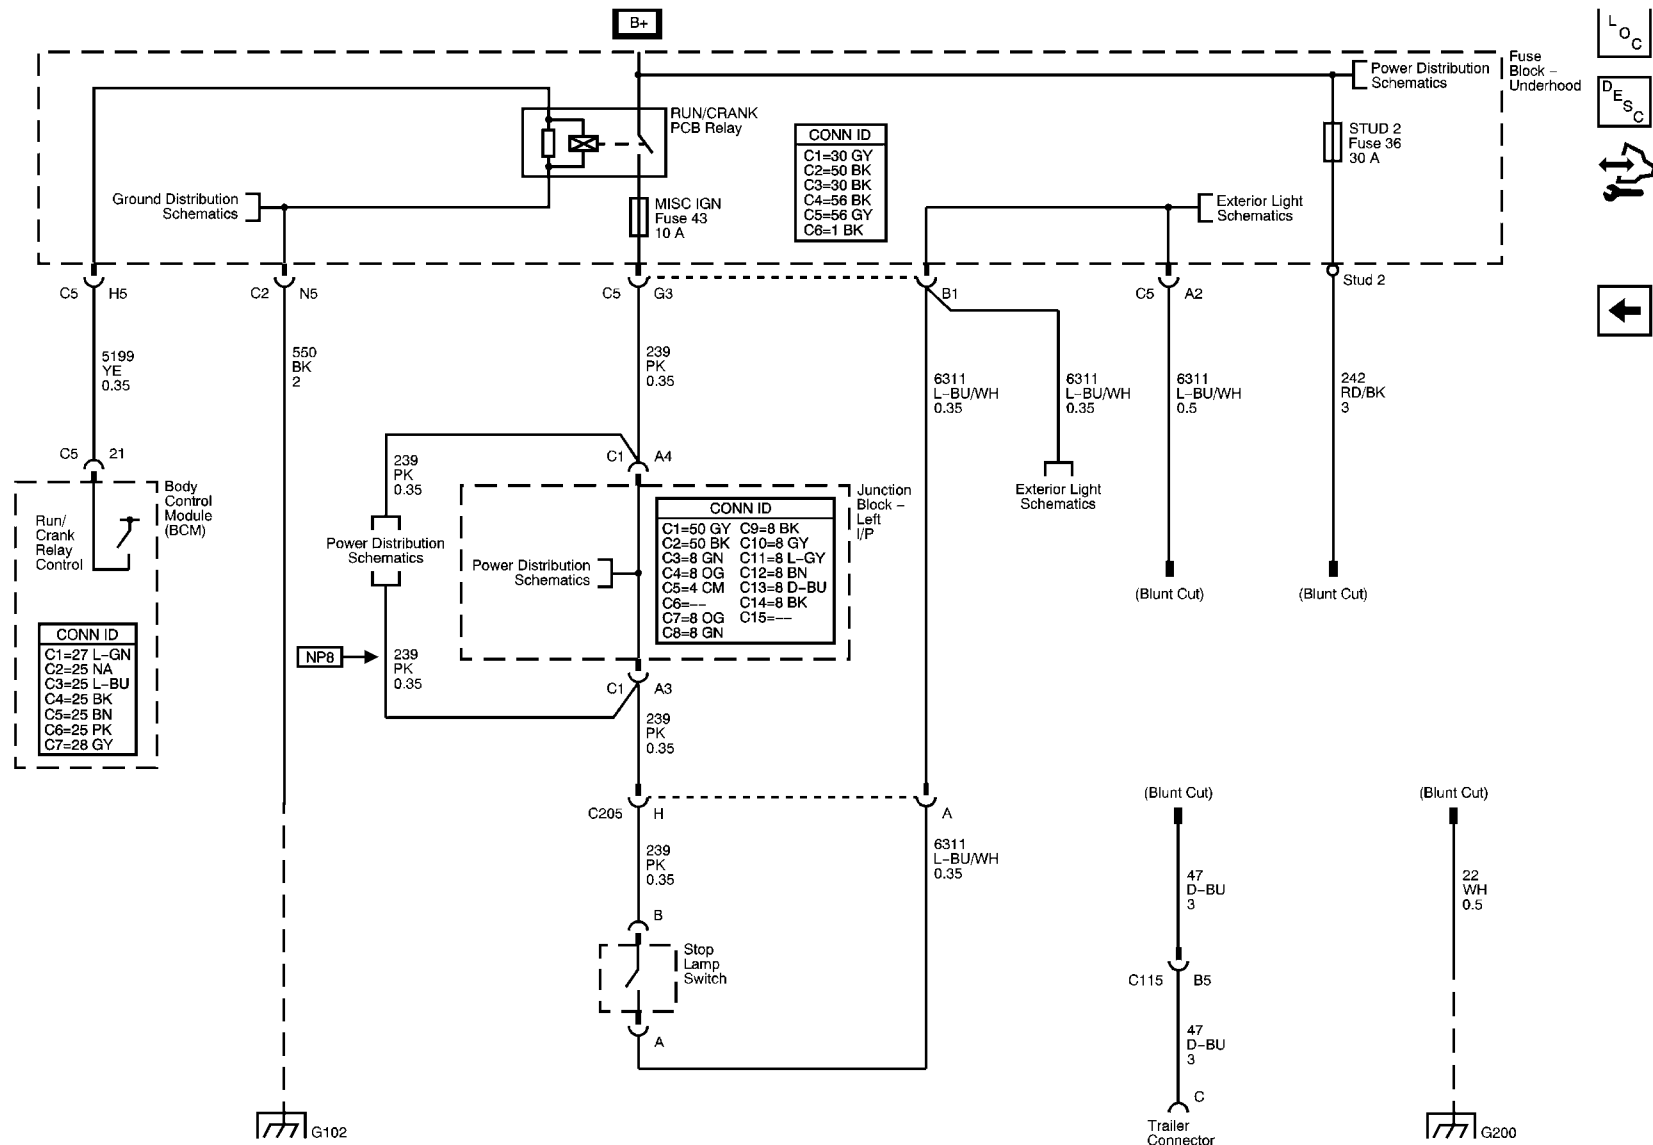

Figure 5
7. Place the terminal on the larger of the two studs at the front of the under-hood electrical center and secure with an M8 nut (Fig. 5)